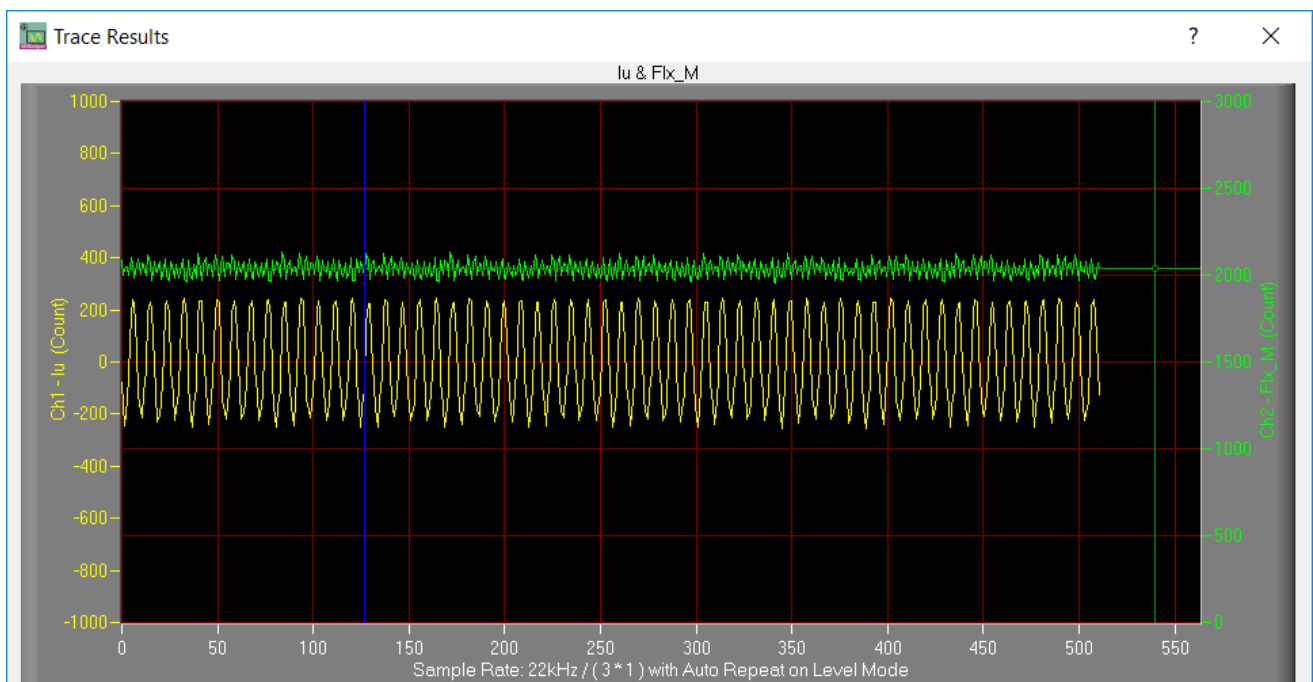

Figure 14 Trace waveform for Iu & Flx-M at 50% speed
13. Set target speed to about 50% of MAX speed, start “Iu & Flx_M” trace with “Auto Repeat On Level,” see Figure 14. Flx_M is better within the range of 2000~2500 (rated value is 2048), and MUST be steady and DC-like.